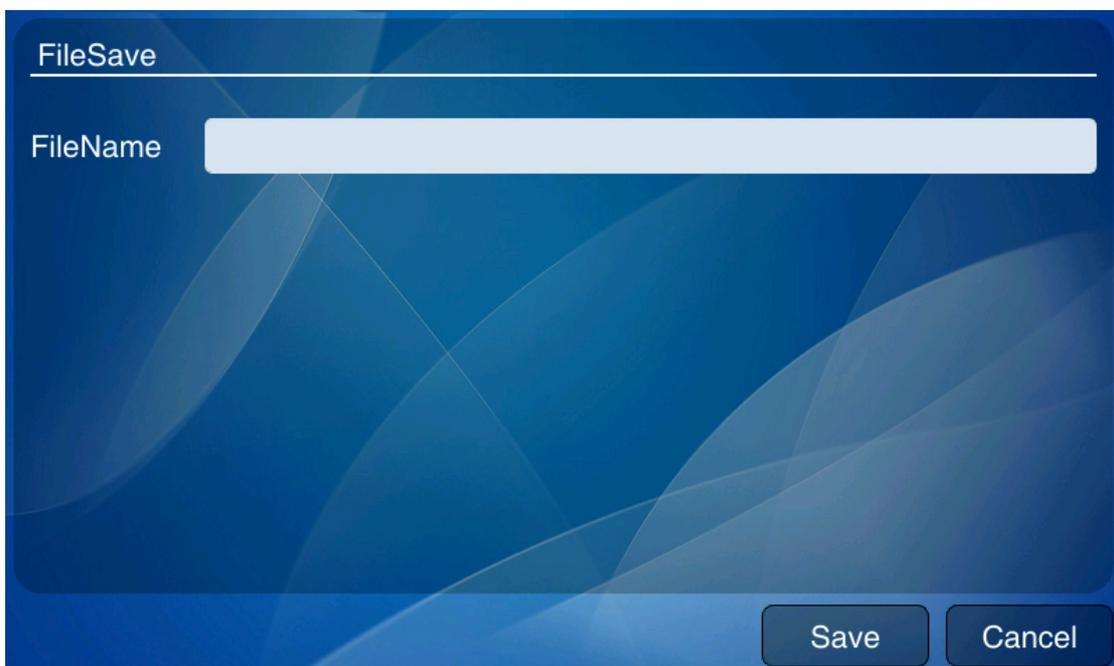

Figure 5-2 File Saving interface
3、 The file saving page is displayed, and enter the file name, as shown in Figure 5-2. **Note that only numbers, letters and Chinese characters can be used, not symbols.**